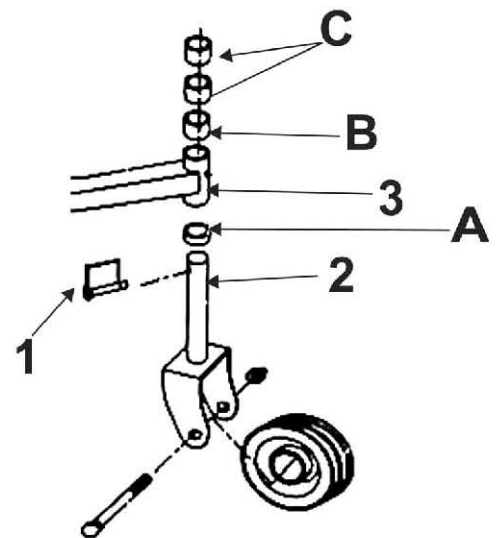

Fig. 6
Adjust the height of the mower deck by installing spacers (A, B, or C) on the bottom of the wheel assembly shaft (2) before inserting into axle arm (3). (See fig. 6)